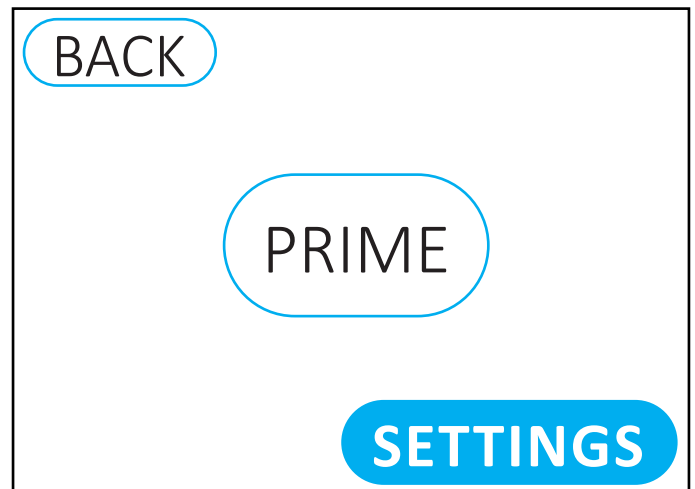

Fig. 10.1: HMI admin menu, Settings selection
3. Select **Settings** [Fig 10.1]